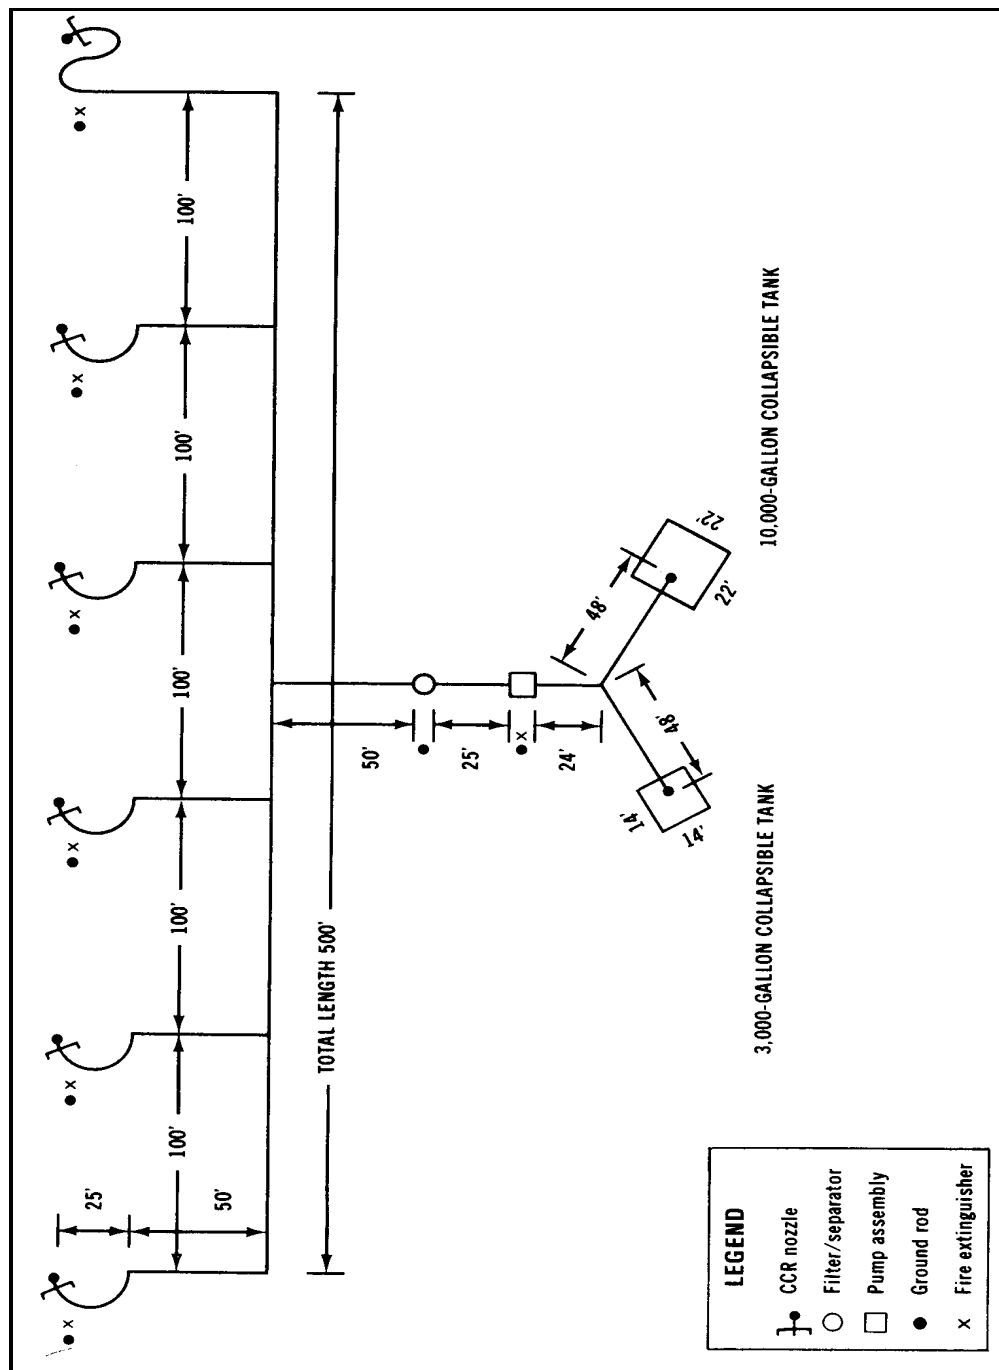
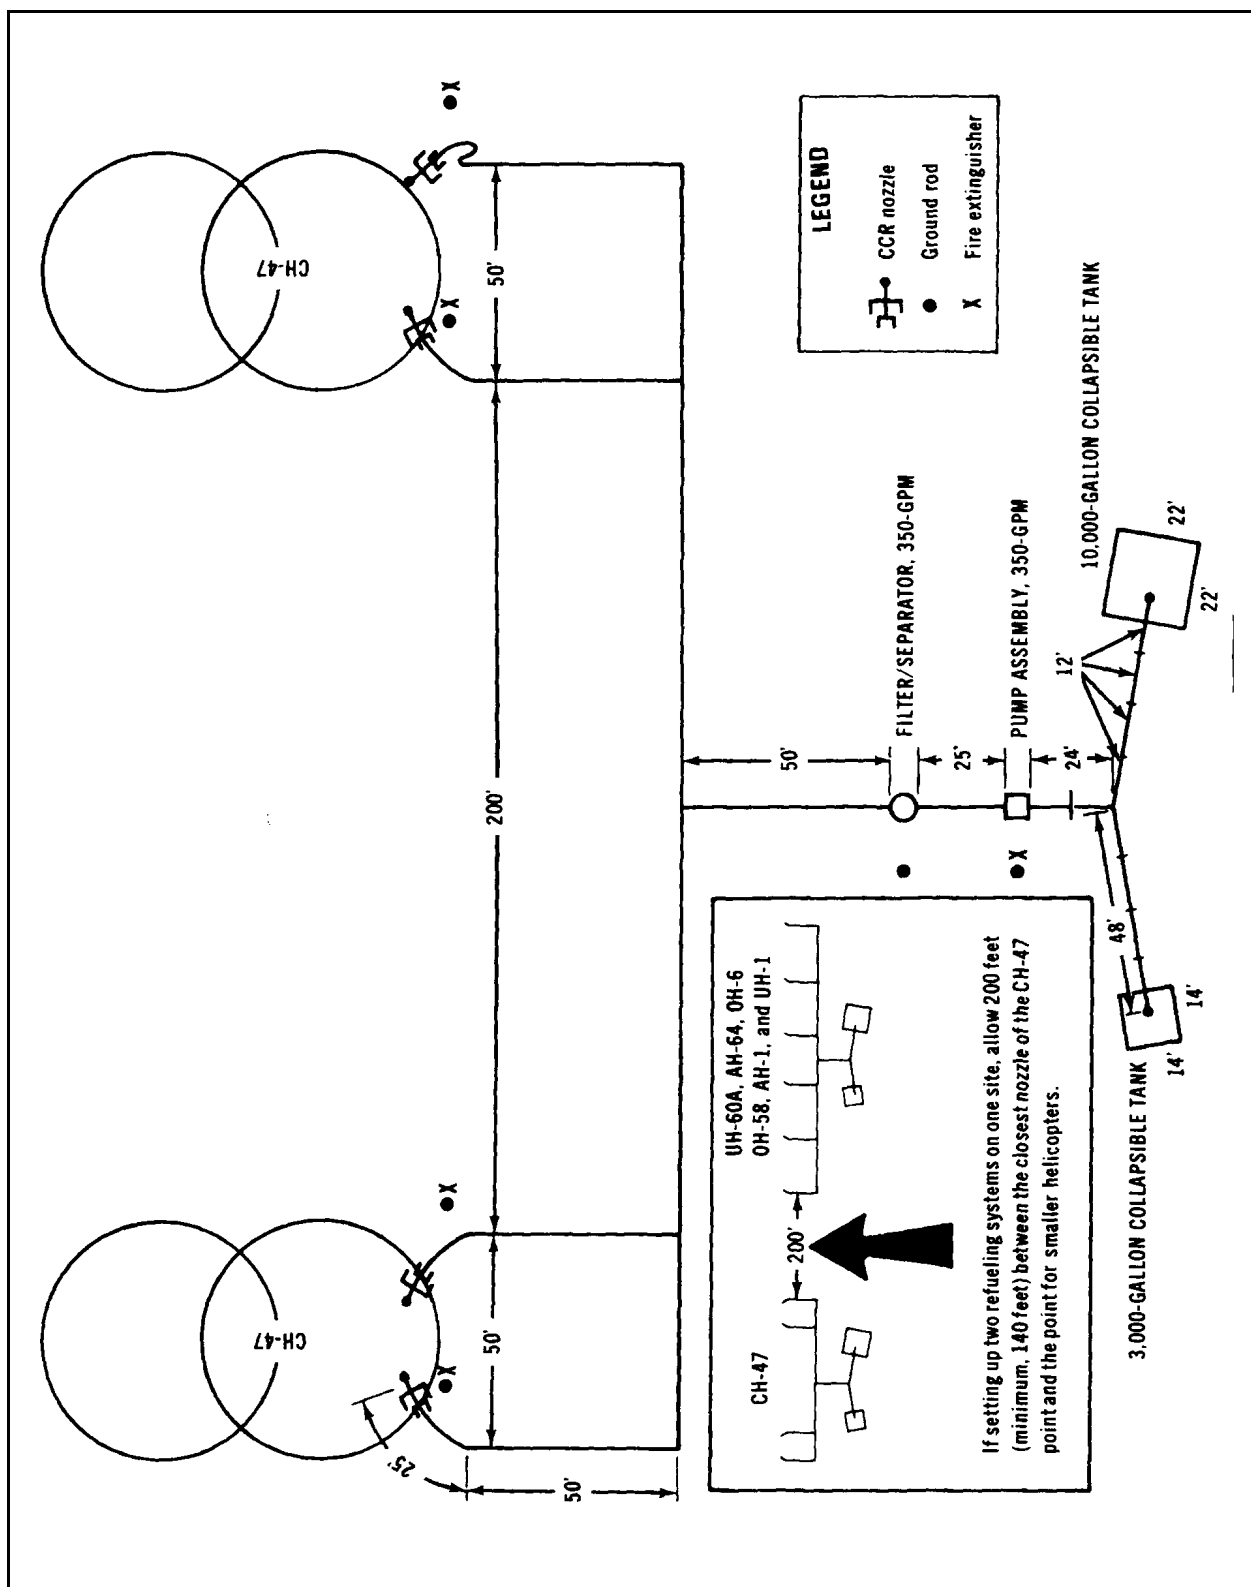
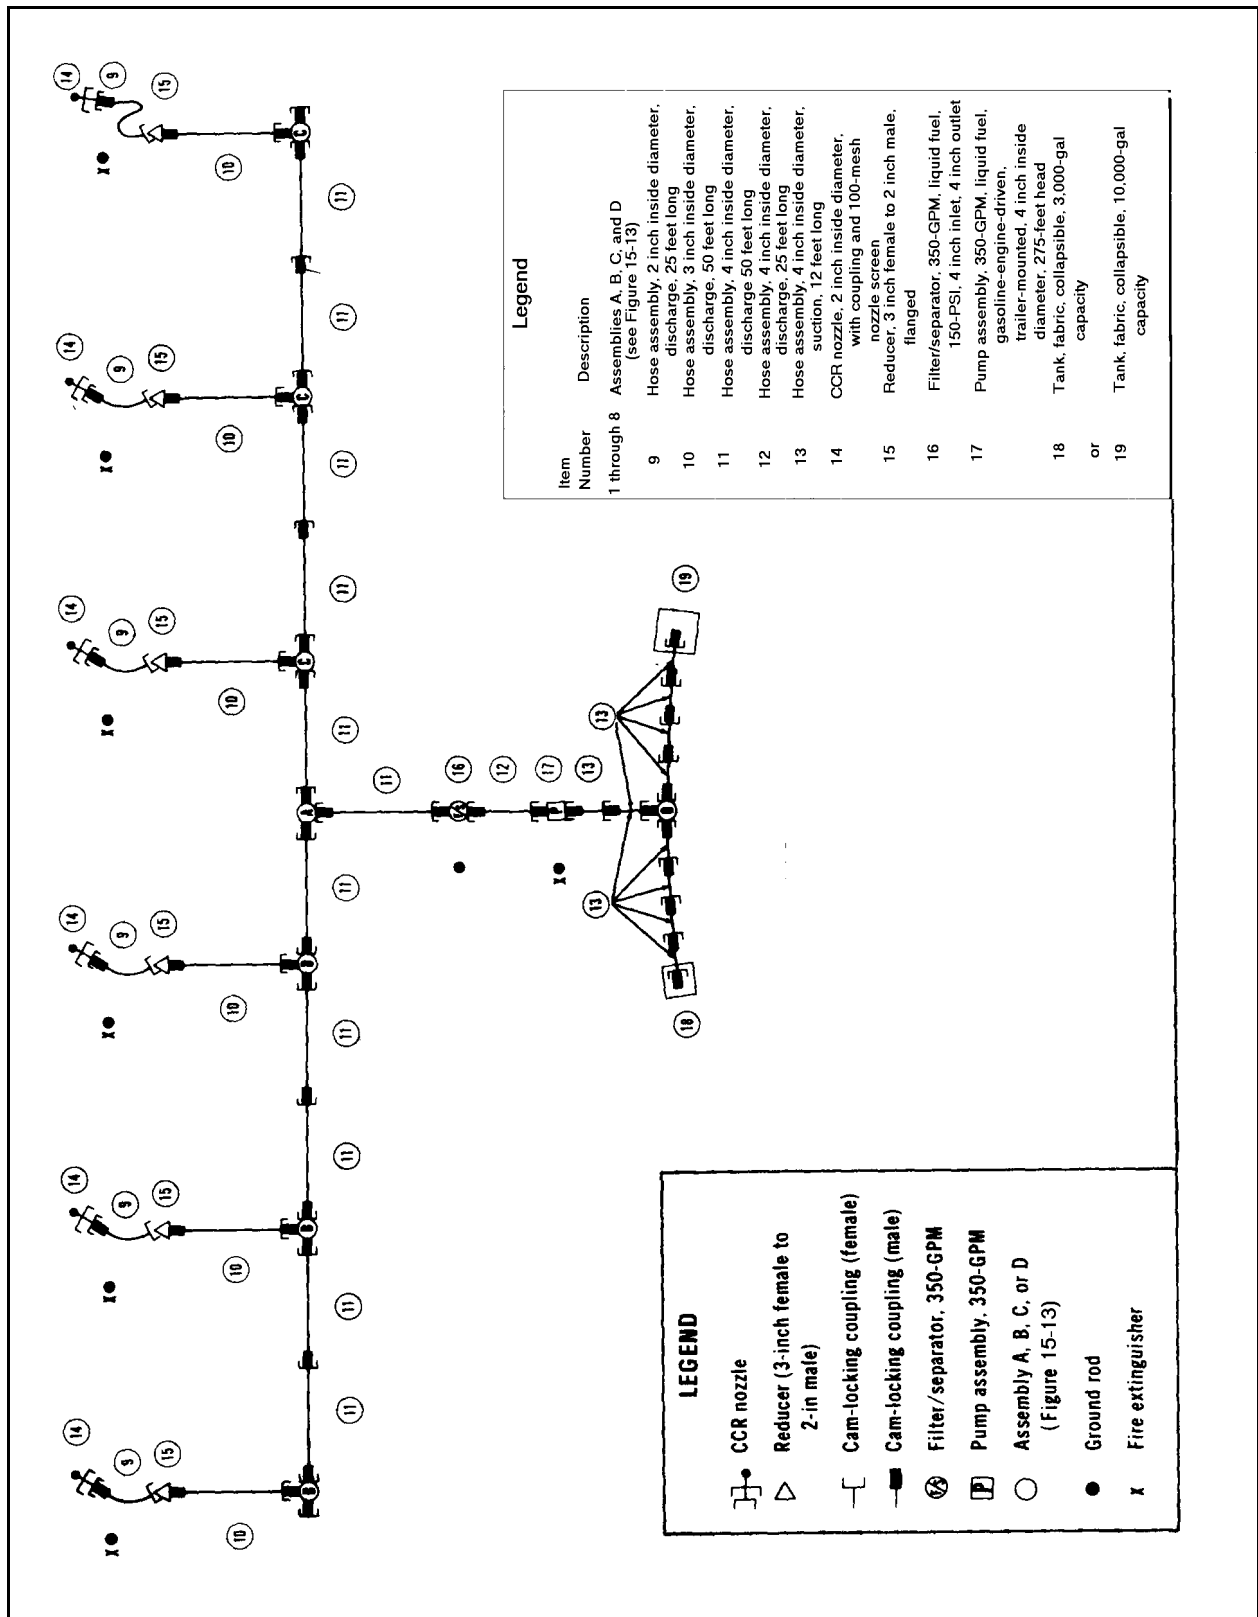
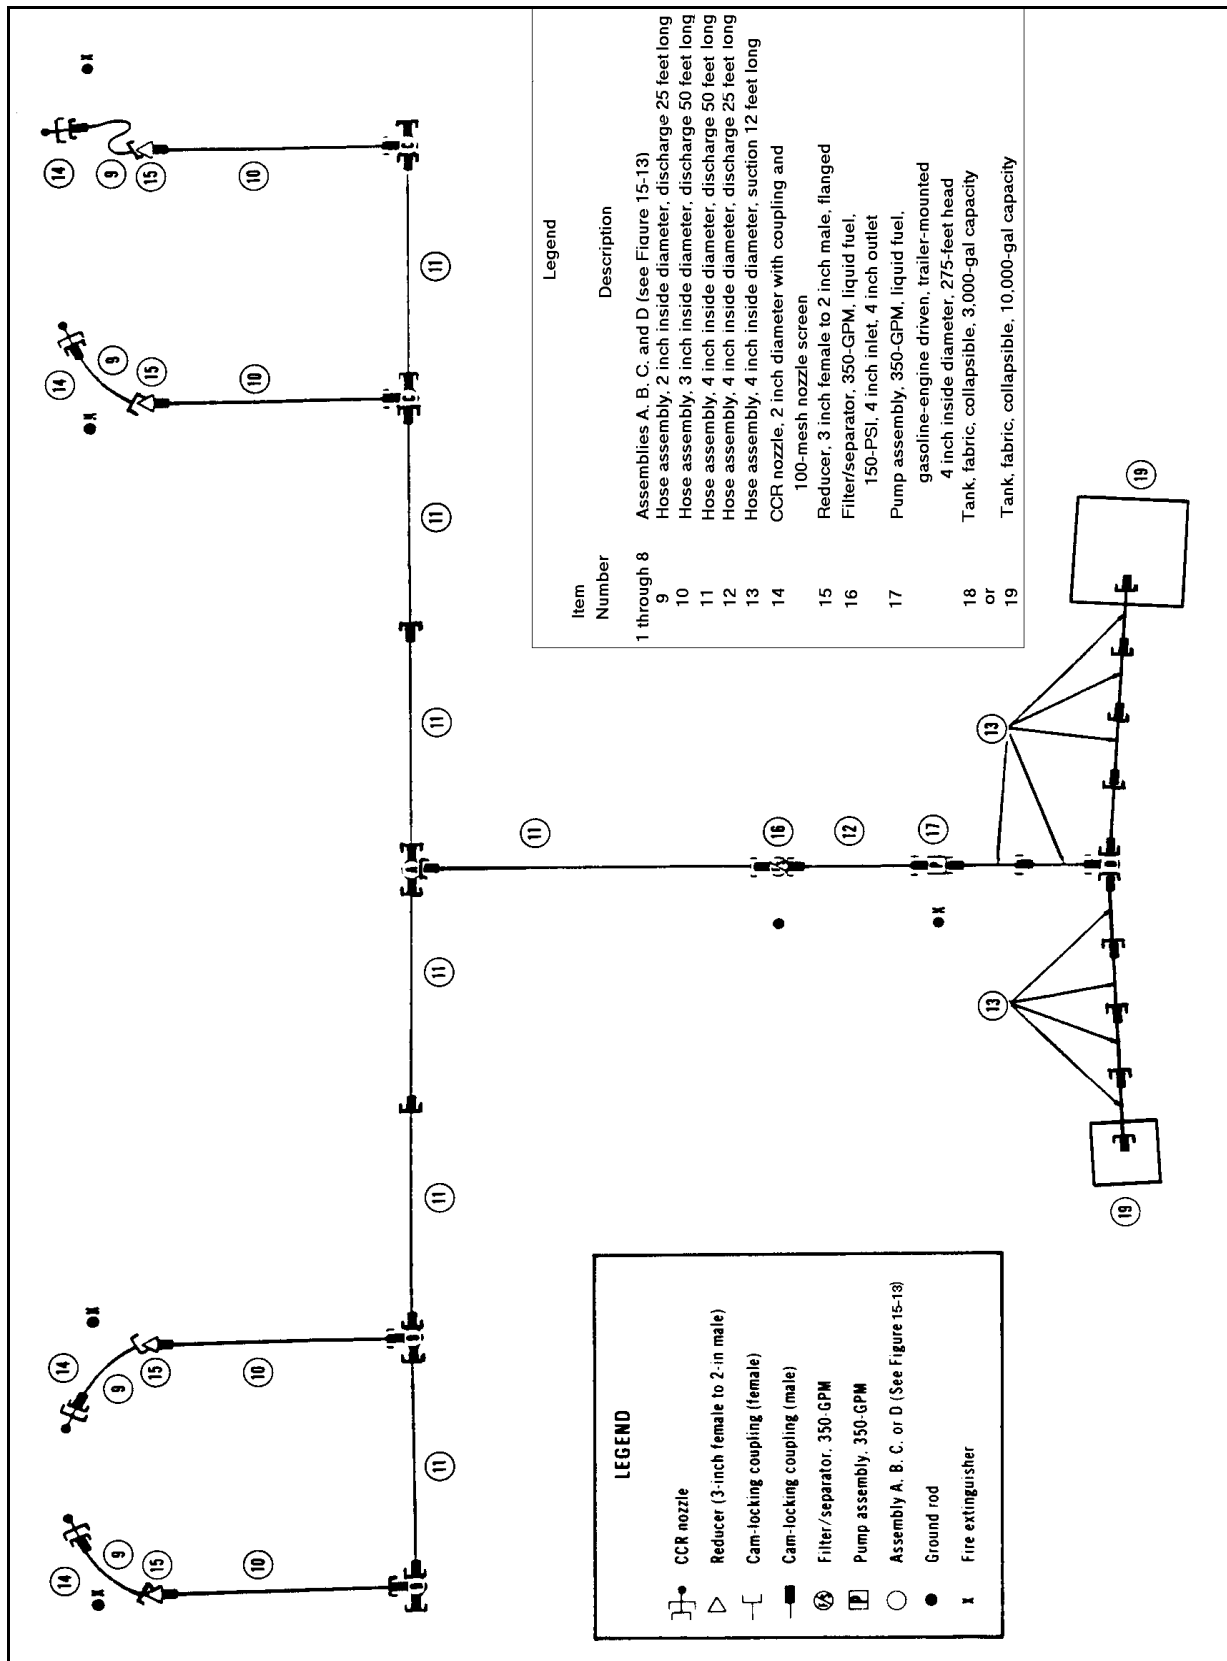

Figure 15-6. Layout of six-nozzle temporary refueling system for OH-6, OH-58, AH-1, and UH-1 helicopters
Figure 15-8. Layout of temporary refueling system for CH-47 helicopters
Figure 15-10. Suggested layout for six-nozzle refueling system for OH-6, OH-58, AH-1, UH-60, AH-64, and UH-1
Figure 15-11. Suggested layout of refueling system for CH-47 helicopters
• Small helicopters. Use the same layout to fuel all of the small Army helicopters. The fueling nozzles must be placed so that there is a 100-foot space between nozzles. Figure 15-6, page 15-17, shows a six-nozzle layout for small helicopters (OH-6, OH-58, AH-1, and UH-1). Layouts for five-, four-, three-, and two-nozzle systems for these aircraft are shown in Figure 15-7, page 15-18. These layouts provide 100 feet between nozzles which is adequate spacing for rapid refueling.
• CH-47. Setup a separate refueling point for CH-47 helicopters if they are refueled at the point. There are two reasons for this. First, enough space must be allowed between a CH-47 and any other helicopters so that the rotor wash from the CH-47 will not turn the other helicopter over. Second, a CH-47 is refueled from both sides, so a separate refueling system lets both sides be refueled at the same time. This decreases ground time. The recommended layout for a CH-47 refueling point is shown in Figure 15-8, page 15-15-20. Lay out the CH-47 point at a separate site or on the same site as the refueling point for the small helicopters. If both points are laid out on one site, allow 200 feet between the last nozzle of one system and the first nozzle of the other system. For CH-47 helicopters to land side by side, the recommended rotor hub spacing is 200 feet and the minimum is 180 feet. When landing nose to tail, the recommended distance is 160 feet and the minimum is 140 feet. The recommended layout provides adequate spacing for CH-47 helicopters regardless of the direction of the landing. If in an emergency or unusual situation, a CH-47 must be refueled at a point laid out for the small helicopters. Have the CH-47 land some distance from the refueling system and taxi in. Have the CH-47 taxi to the end nozzle. Do not allow any other helicopters to use or approach the adjoining nozzle until the CH-47 lifts off. When refueling is complete, have the CH-47 taxi away from the refueling system and lift off from a designated point some distance away from the system. If a CH-47 is refueled at a two-nozzle point, have it land between the two nozzles and do not allow other aircraft to land at the point until the CH-47 has cleared the area. The CH-47C/D has a D-1, single-point refueling system. When the aircraft is equipped in this way, it is refueled in the same manner as the CH-54.
Figures 15-6 through 15-12, pages 15-17 through 15-24, are guides to laying out equipment systems. Figure 15-10, page 15-22, shows the layout for the refueling system assembly of a six-nozzle system designed to service OH-6, OH-58, AH-1, UH-60, AH-64, and UH-1 helicopters. Figure 15-8, page 15-20, shows a recommended layout for the refueling system of CH-47 helicopters. Figure 15-12, page 15-24, is a detailed drawing of the layout for the six-nozzle system of CH-47 helicopters. It focuses on the principal valves and fitting assemblies. The CH-47 system varies from the other system (Figure 15-11, page 15-23) in that the hose sections are arranged to provide increased distance. Figure 15-13, page 15-25, shows the main valve and fitting assemblies of all recommended temporary refueling system equipment layouts.
Position a fire extinguisher at each refueling nozzle and at the pump assembly. Place the fire extinguishers as shown in Figures 15-6, through 15-8, pages 15-17 through 15-20 and 15-10 through 15-12, pages 15-22 through 15-24. Twenty pound carbon dioxide (CO₂) or equivalent capacity dry chemical fire extinguishers are recommended.